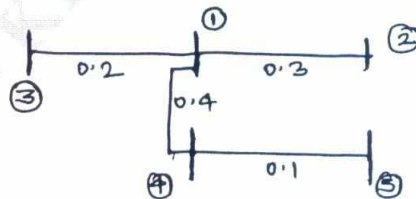

Fig.Q2(b)
- b. Form the Z_{BUS} for the power system shown in Fig.Q2(b). Select node 1 as reference bus. The line reactances are marked in p.u.